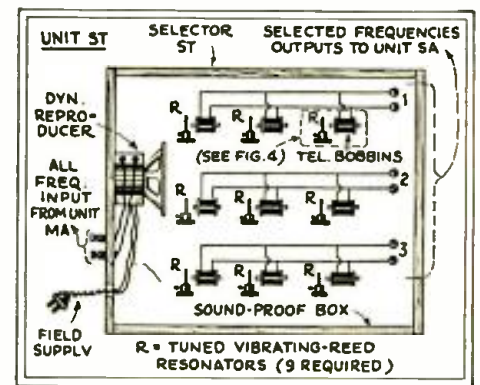
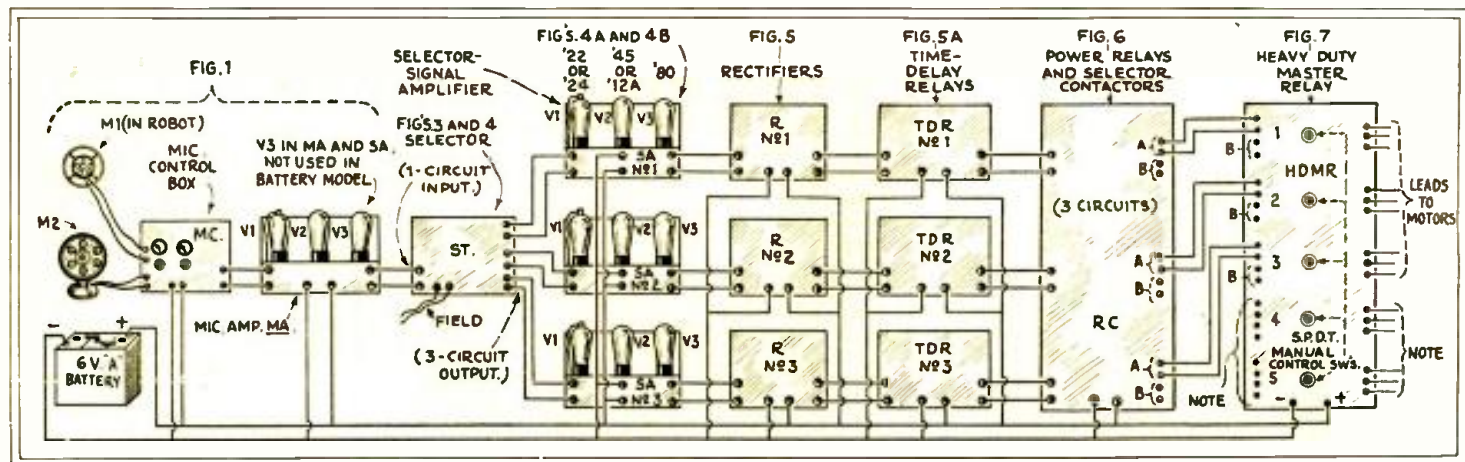

Fig. 3
Fig. 2
Fig. 2 is a pictorial layout of the signal-selector system, whereby a pre-determined series of notes of different pitches and timbres are used to actuate the mechanical man. Examining the layout from left to right, it will be noted that the microphone M1 (the one concealed within the robot) is connected to a microphone control box (G, in Fig. A.) This connects to the input of a high-quality amplifier, such as an Elecrad direct-coupled Type A-245 unit, Fig. 4A. The output of this microphone amplifier, connects to a three-section selective tuning device ST, which is the portion of the apparatus that picks out or responds to the particular actuating notes or tones.
The output of the "mike" amplifier (MA, Fig. 2) is connected directly to the voice coil of a small dynamic reproducer, mounted within a sound-proof wooden box (ST) containing nine differently tuned vibrator reeds. There are nine electromagnets, one in front of each vibrator reed; three of them being connected in parallel on each of the three electrical circuits, as shown in Fig. 3.
One of the units rectifying the output of a selector unit (Fig. 3).
Too many records are spoiled by incorrect use of the microphone. Fig. 1 is the schematic diagram of a single-button microphone circuit, and Fig. 2 that of a two-button microphone hook up. In Fig. 1 the milliammeter is placed in series with one leg, and the microphone current is varied by means of the potentiometer "P"; the values of this current is determined by the type of microphone used, and this information is usually supplied with the instrument. (Interesting data on microphone amplifiers appeared in the article, "A Public-Address Amplifier Unit, in the October, 1930, issue of *RADIO-CRAFT*—Tech. Ed.)
If a two-button microphone is used, jacks in each button leg, as shown in Fig. 2, will